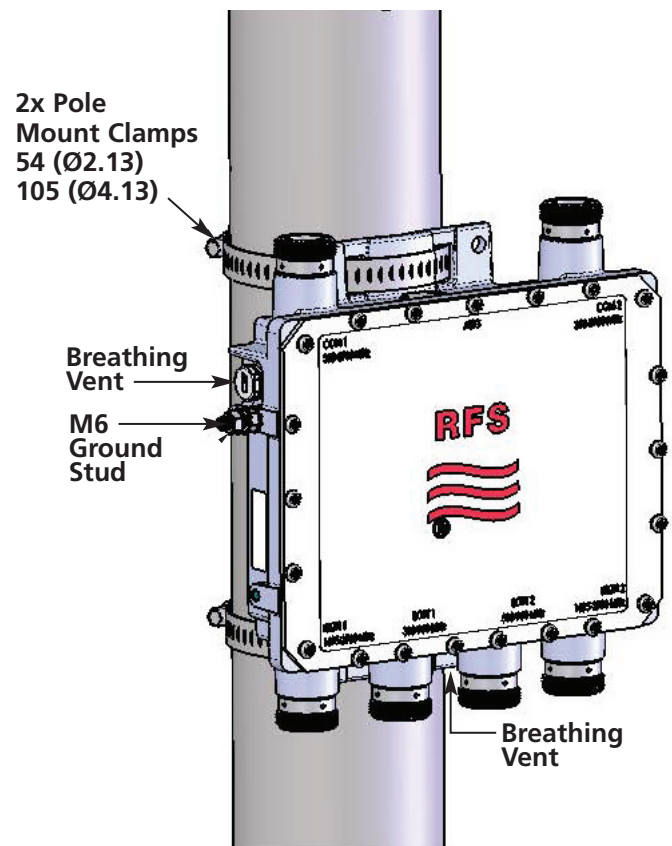

Figure 1
2. Fix the clamps onto the Diplexer (See Figure 1).